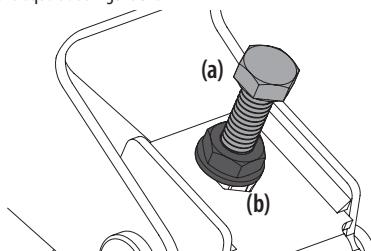

Figure 32
3. Locate the adjustment bolts (a) on the left and right side of the deck. See Figure 32.
4. Loosen, but do not remove, the jam nuts (b) on the adjustment bolt. Adjust either the right or left adjustment bolt up or down as necessary until the side-to-side heights are equal. See Figure 32.
- When proper adjustment is achieved, re-tighten the jam nuts (b). Tighten to 57 ft-lbs (77 N-m). See Figure 32 on page 25.